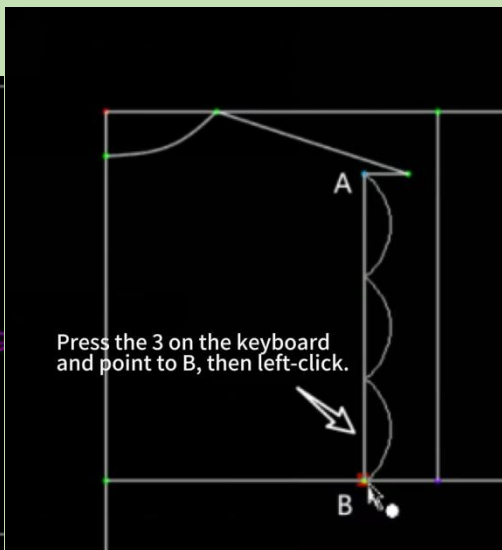

Figure4-38
- (3)click the end point B. ( Figure4-38 )